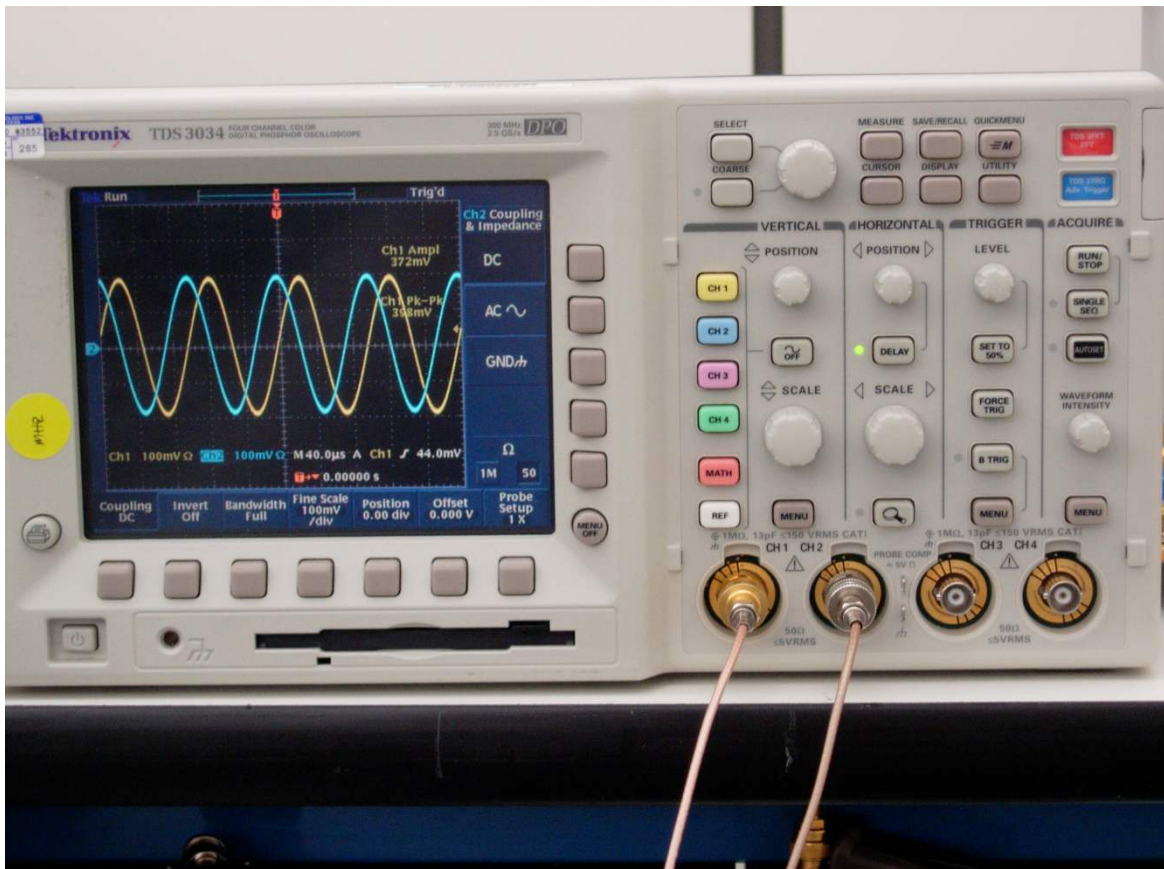

Figure 11. Oscilloscope
- The CW outputs (J12, J13) display the frequency I and Q signals at 10 kHz as shown in Figure 11. The GUI Gain Control Feedback Resistor can vary the amplitude of the outputs.